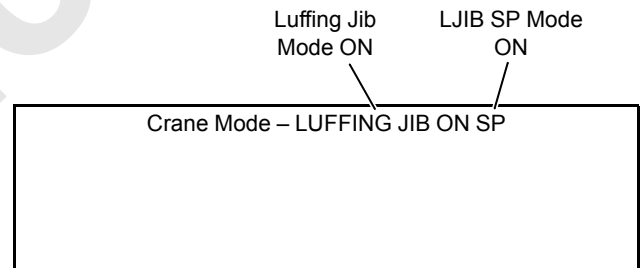

FIGURE 3-4
2. Select and confirm luffing jib mode. After confirming this mode, top line of display should read (see Figure 3-4):